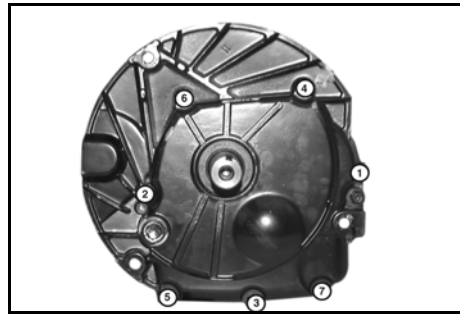

Figure 11
- Figure 11 - Vertical shaft models 120000, 210000